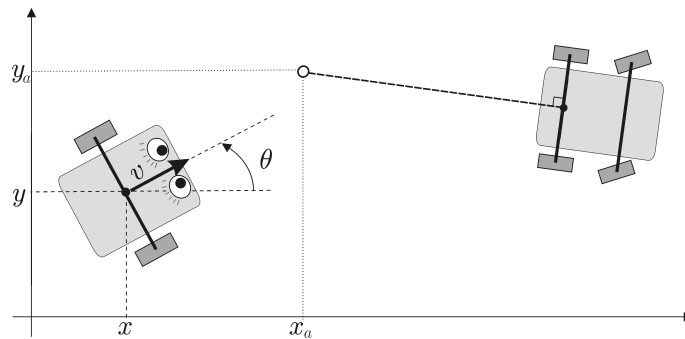

Figure 6.10: Our robot (with eyes) follows a vehicle (here a car) which has an attachment point (small white circle) to which the robot has to attach
SECOND PART.– (control of a tank-like vehicle). Let us consider the robotic vehicle on the left hand side of Figure 6.10, described by:
2) Another mobile vehicle (on the right hand side of Figure 6.10) tell us, in a wireless manner, the precise coordinates  $(x_a, y_a)$  of a virtual attachment point (in other words one that only exists mentally), fixed with respect to this vehicle, to which we need to position ourselves. This means that we want the center of the robot  $(x, y)$  to be such that  $x(t) = x_a(t)$  and  $y(t) = y_a(t)$ . This vehicle also sends us the first two derivatives  $(\dot{x}_a, \dot{y}_a, \ddot{x}_a, \ddot{y}_a)$  of the coordinates of the attachment points. Propose the expression of a control  $\mathbf{u}(\mathbf{x}, x_a, y_a, \dot{x}_a, \dot{y}_a, \ddot{x}_a, \ddot{y}_a)$  which ensures us that the distance between the position  $(x, y)$  of our robot and that of the attachment point  $(x_a, y_a)$  decreases in an exponential manner. We will set the poles at  $-1$ .